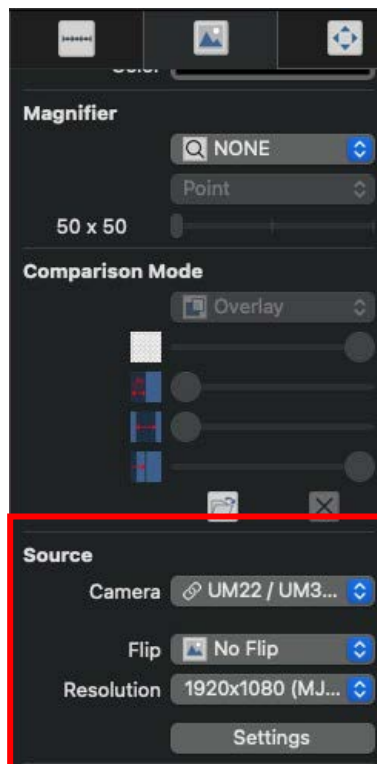

Figure 5-59 Display setting block
4. Display Setting, as shown in Figure 5-59: